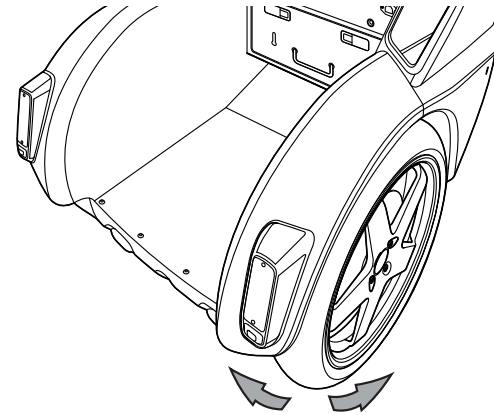

Figure 47: Checking the Tire/Wheel Assembly for Wobble
3. Check for Wheel wobble by grasping the Tire/Wheel Assembly and attempting to move it side-to-side (**Figure 47**). The Tire/Wheel Assembly should not move laterally.